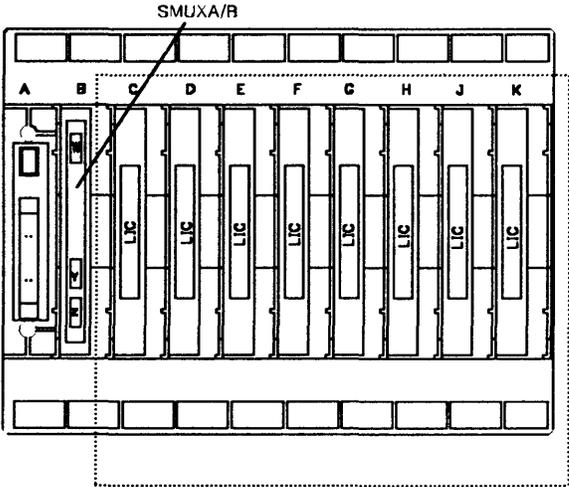

Figure 4-52. SMUX Location.
4. For SMUX location refer to Figure 4-52